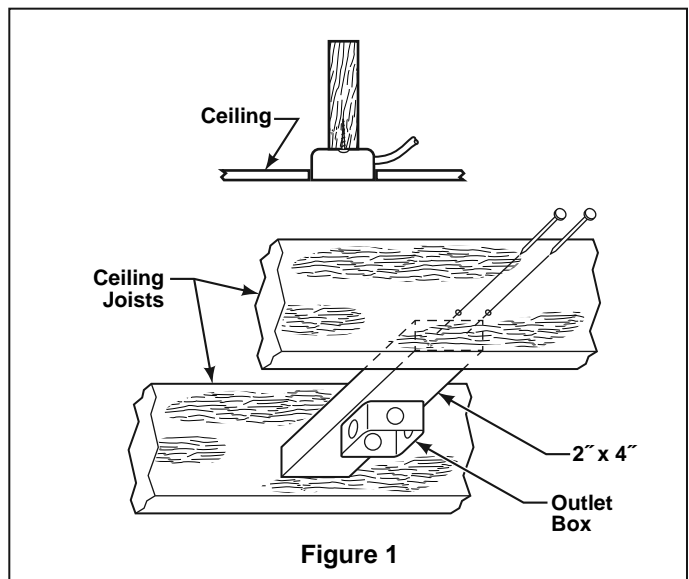

Figure 1
NOTE: If you are uncertain of part description, refer to exploded view illustration. (Figure 1, page 13)
Your new ceiling fan will require a grounded electrical supply line of 120 volts AC, 60 Hz, 15 amp circuit. The outlet box must be securely anchored and capable of withstanding a load of at least 50 lbs. **Figure 1** depicts different structural configurations that may be used for mounting the outlet box.
1. Remove the Hanger Ball by loosening the setscrew in the Hanger Ball until the ball falls freely down the Downrod. (Figure 1) Remove the Pin from the Downrod, then remove the Hanger Ball. Retain the Pin and Hanger Ball for reinstallation in Step 5.
5. Reinstall the Hanger Ball (Figure 1) on the Downrod as follows. Route the three 80" wires and cable through the Hanger Ball. Position the Pin through the two holes in the Downrod and align the Hanger Ball so the Pin is captured in the groove in the top of the Hanger Ball. Pull the Hanger Ball up tight against the pin. **Securely tighten the setscrew in the Hanger Ball.** A loose setscrew could create fan wobble.
The fan must be hung with at least 7' of clearance from floor to blades (Figure 1)